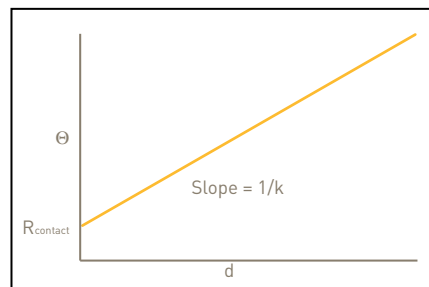

Figure 2. Thermal Impedance vs. Thickness
Thermal impedance can be measured using ASTM D5470 at several clamping forces to generate a pressure versus thermal impedance plot as shown in Figure 2. This type of data can be used to generate information about the ability of a material to conform to surfaces to minimize contact resistance. Care must be taken with this type of data because contact resistance is also highly influenced by surface characteristics. To minimize the impact of test equipment variations, this type of work is best performed with the same test surfaces for all materials being tested.
Equation (6) shows that for a homogeneous material, a plot of thermal impedance [Θ] versus thickness (d) is a straight line whose slope is equal to the inverse of the thermal conductivity and the intercept at zero thickness is the contact resistance shown in Figure 2. Thickness can be varied by either stacking up different layers of the material or by preparing the material at different thicknesses.